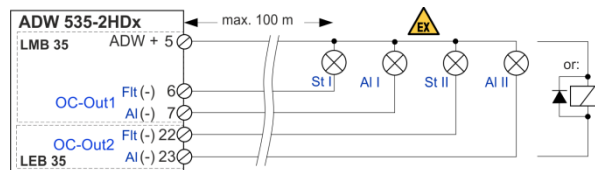

Fig. 29 Connecting the OC outputs
- When connecting inductive consumers (e.g. relays), a free-wheeling diode is to be installed directly at the consumer (**Fig. 29**).